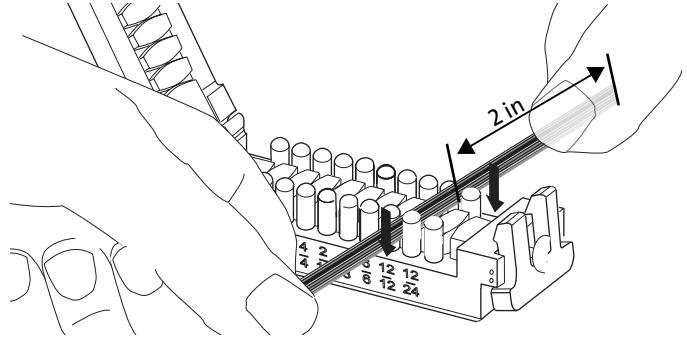

Figure 5
Step 2: To load an open tool, position the ribbon approximately 2-in from its end in the appropriate channel, either the 12/12 split or the 12/24 split (Figure 5).